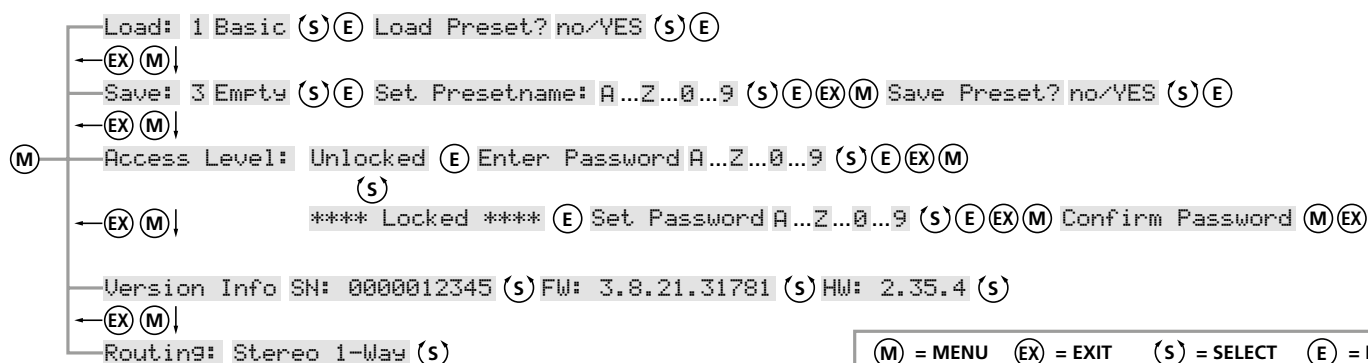

Fig. 7 Menu structure of the system menu
The following general settings can be made by means of the system menu (fig. 7). Use the button MENU (4) to call up the menu and the button EXIT (4) to exit the menu. Press the button MENU repeatedly to select a menu item.